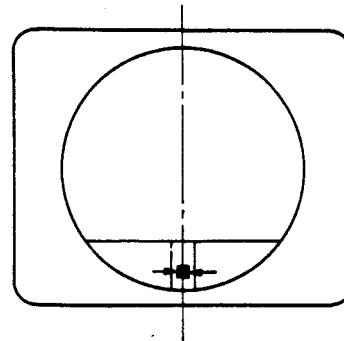

Fig. 6. DISPLAY POSITION
- (1) Tune receiver to a G-Card signal.
- (2) Press "OPTIMUM" button and adjust DISPLAY POSITION control VR701 so that the optimum display shall be in the middle of the horizontal width of the picture. (Fig. 6).